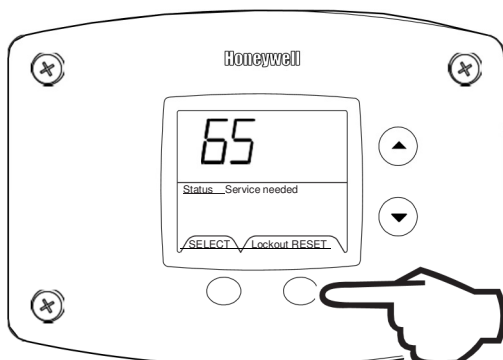

Fig. 62
2. Press for 3 seconds to reset control in service mode (Fig. 62).